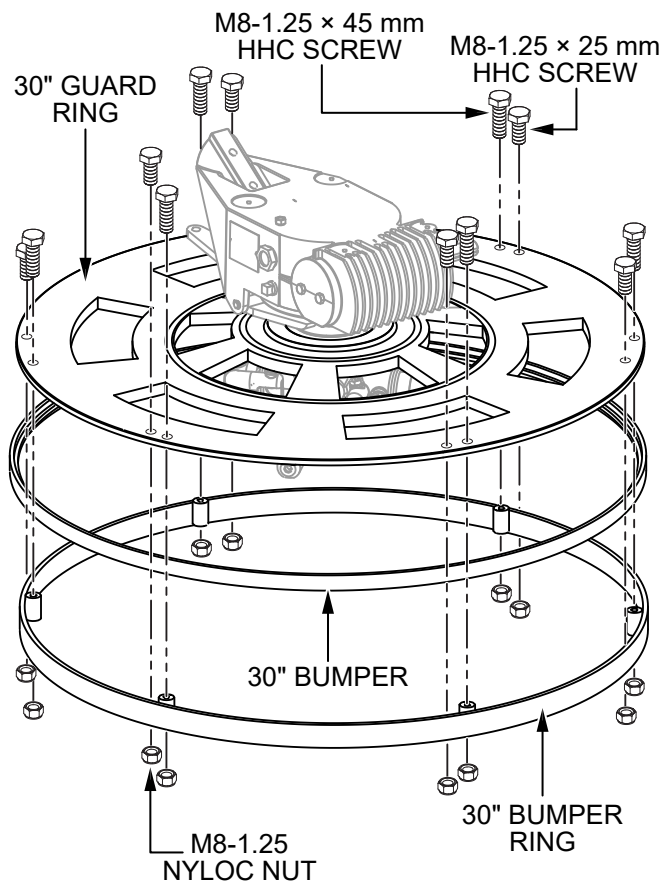

Figure 19. 30-Inch Bumper Ring Installation
- Place the 30" bumper in between the 30" guard ring and the 30" bumper ring as shown in Figure 19. Secure the 30" bumper ring to the 30" guard ring with the six provided M8-1.25 × 45 mm HHC screws and six retained M8-1.25 nyloc nuts.
- Install the six retained M8-1.25 × 25 mm HHC screws and six remaining M8-1.25 nyloc nuts into the available 30" guard ring holes (Figure 19) and tighten securely.